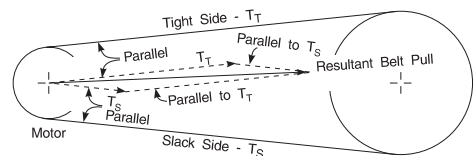

Figure 34 – Graphical Addition of T_T and T_S
- A. If only the magnitude of belt pull is needed, numerical methods for vector additions are faster than the graphical approach. If both magnitude and direction of belt pull are required, the vector sum of T_T and T_S can be calculated by graphical vector addition as shown in Fig. 34. The T_T and T_S vectors are parallel to the tightside and slackside, respectively, and they should be drawn to a convenient scale; i.e. 1 in. = 100 lb.
Fig. 34 shows the vector addition for belt pull on a motor shaft. Use the same procedures to determine the belt pull on the driveN shaft. This graphical illustration method should also be used for drives that have three or more sheaves or idlers.